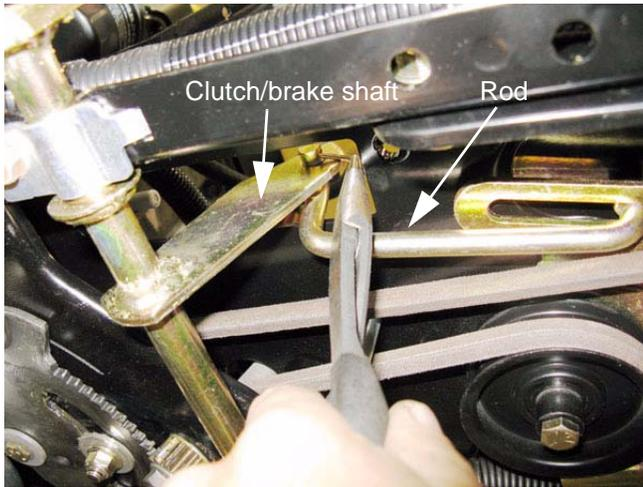

Figure 5.22
3. Disconnect the rod that joins the arm at the left side of the brake/clutch shaft to the drive belt tensioner pulley bracket. See Figure 5.22.